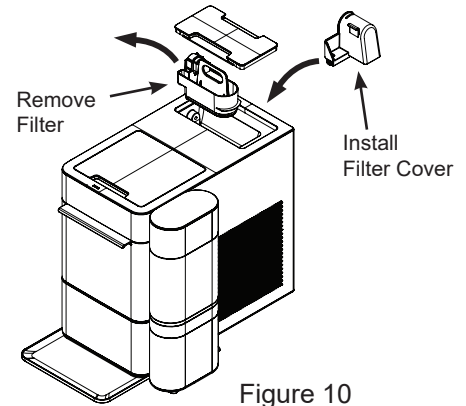

Figure 10
- Remove filter (if present) and install filter cover (Figure 10).